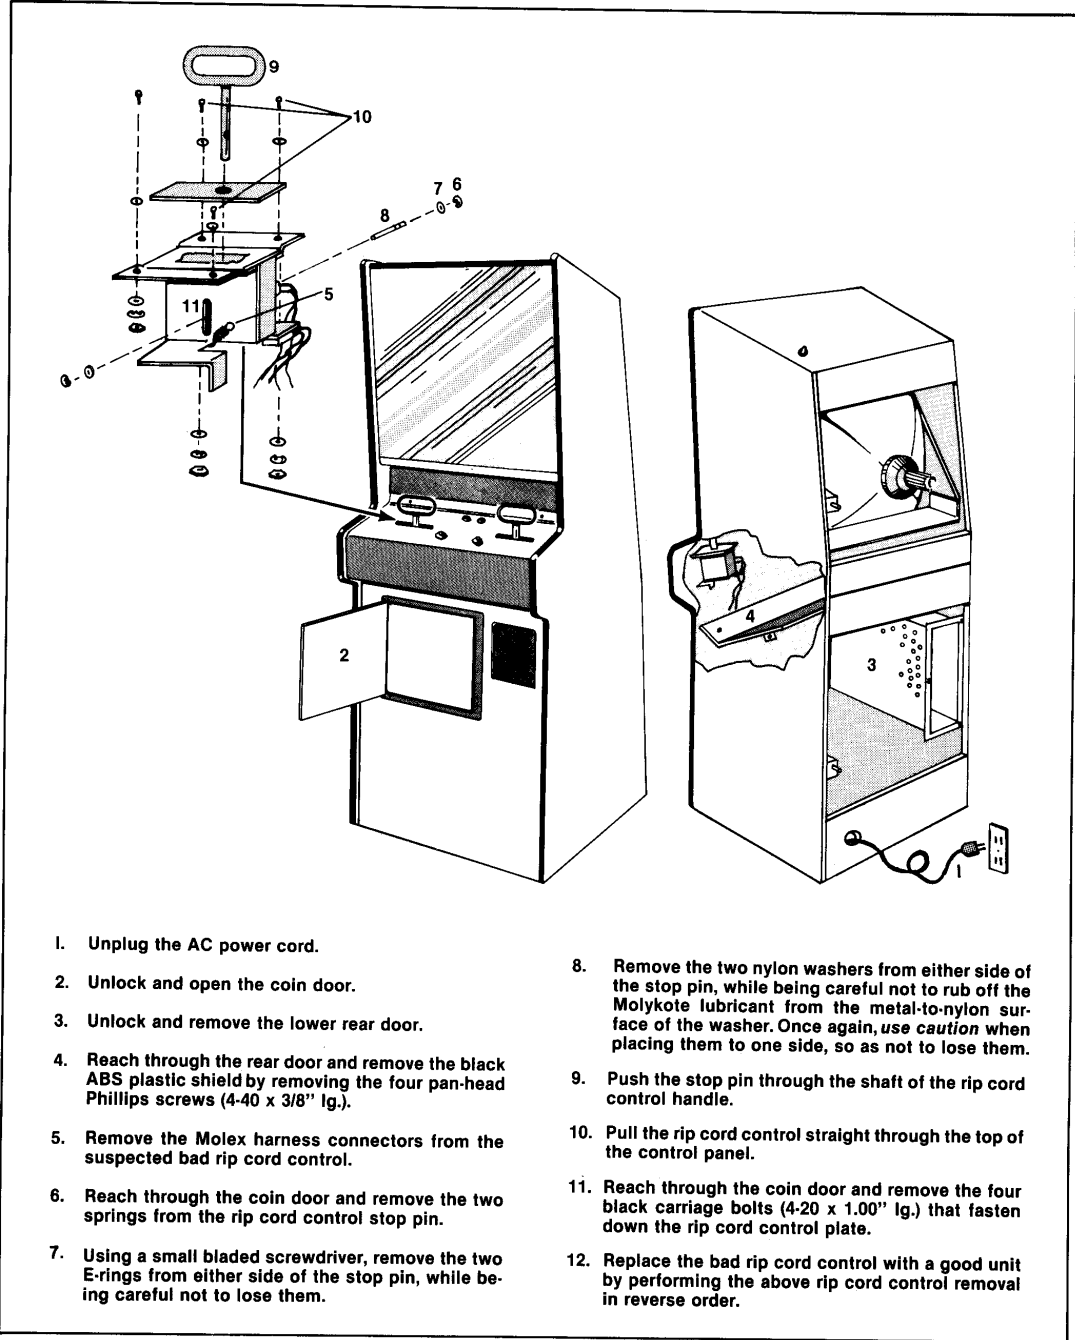

Figure 3-12 Rip Cord Control Replacement
H. RIP CORD CONTROL REPLACEMENT (See Figure 3-12)
The black and blue rip cord controls, located on the main control panel assembly may need to be replaced if faulty or damaged. To replace this control, proceed with the instructions outlined in Figure 3-12.